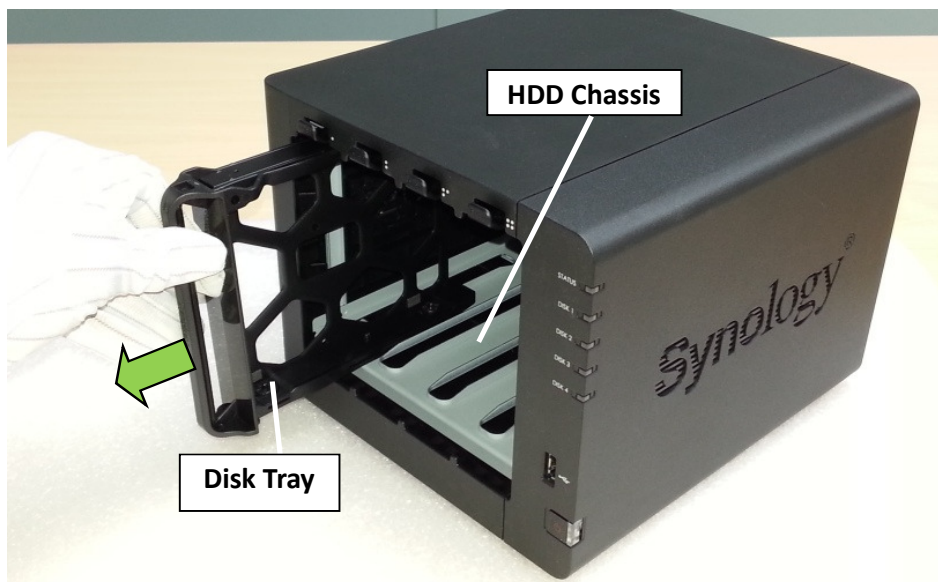

Fig. 2
2.1.2 Remove all the disk trays from the HDD chassis. (Fig. 2)